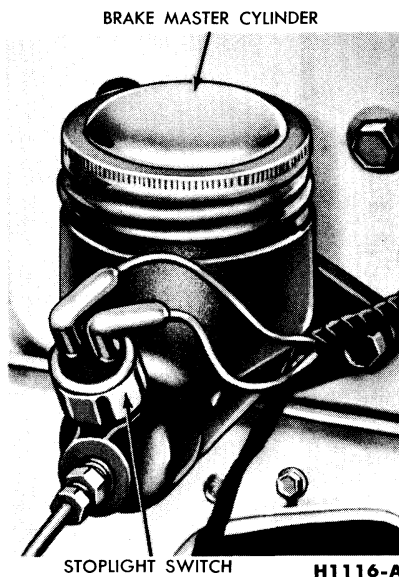

FIG. 12—Brake Master Cylinder Installed
2. Disconnect the brake line from the master cylinder. Disconnect the stop light switch wires from the switch (Fig. 12).